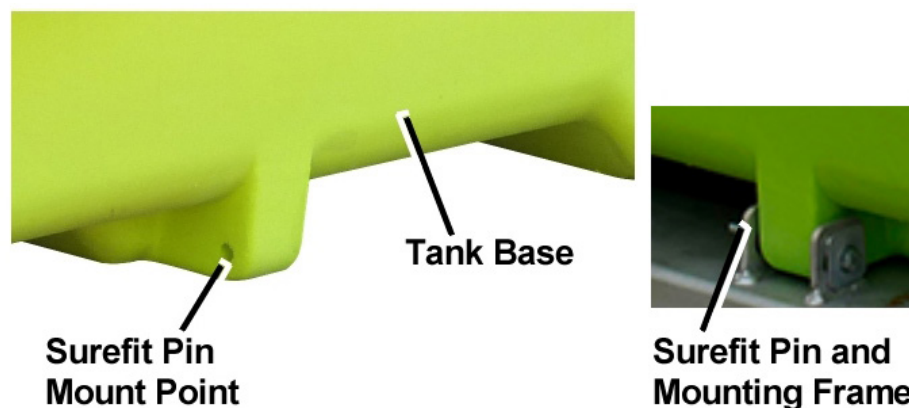

Figure 4 – Component Identification – SpotPro Deluxe 200L
- Position your SpotPro unit onto the vehicle and mount securely. Tie-down straps can be located into the tie-down recesses on the SpotPro tank – the 220L tank has one recess, the 400L tank has two. The tie-down straps must be rated to at least the total mass of the unit when filled with fluid. Alternatively, the tanks incorporate the Surefit pin mount holes on its base, to enable a bolt and bracket system to secure the unit to the vehicle. The 400L unit has four Surefit mount points, the 22L unit has two, refer to Figure 4.